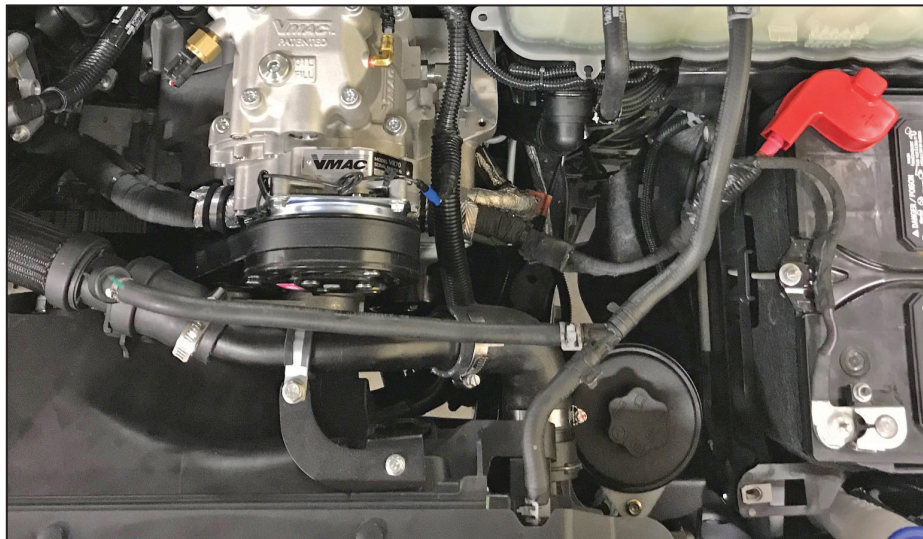

Figure 64 — Connect upper radiator hose
- ☐ Install the supplied bent tube into the upper coolant hose as shown, and orient it toward the upper radiator spigot (Figure 64).
- ☐ Using the supplied gear clamp, install the short side of the supplied 90° hose onto the quick connect and connect the other side to the bent tube (Figure 64).
- ☐ Using the OEM fastener, secure the upper coolant bracket to the fan shroud (Figure 64).
- ☐ Using the supplied P-clip and fasteners, secure the upper coolant hose to the bracket. Ensure the hose is secured away from the clutch (Figure 64).